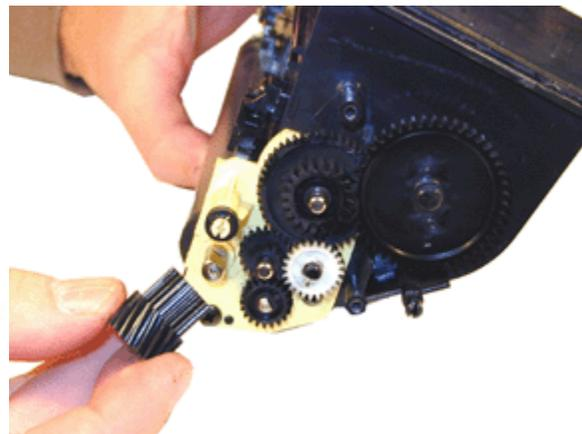

FIGURE 35
32. Install the developer roller drive gear. See Figure 35